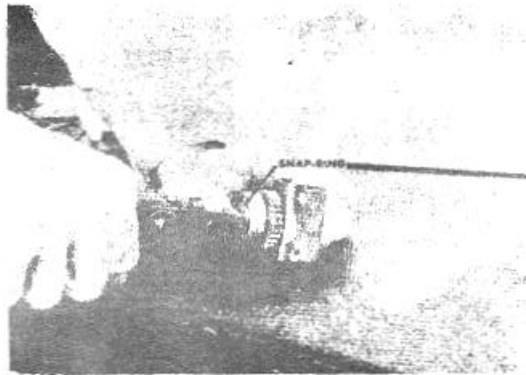

Figure 4-36. Removing bearing snap ring.
5. Press on a new ball bearing and secure with a snap ring. Fig. 4-36.